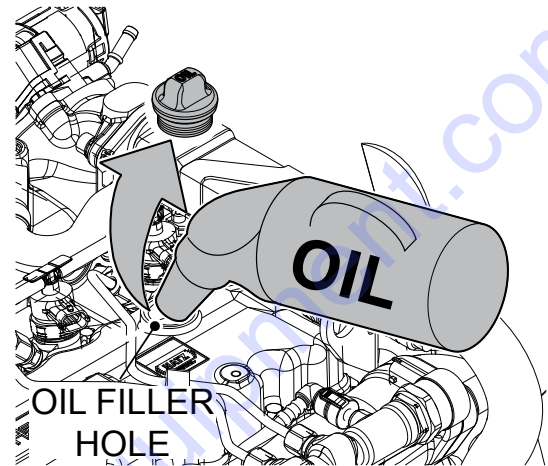

Figure 12. Engine Oil Filler Hole (Upper)
5. If the oil level is close to the 'min.' mark, add engine oil through the oil filler hole up to the 'max.' mark. Depending on accessibility, use either the upper oil filler hole (Figure 12) or the lower filler hole (Figure 13).